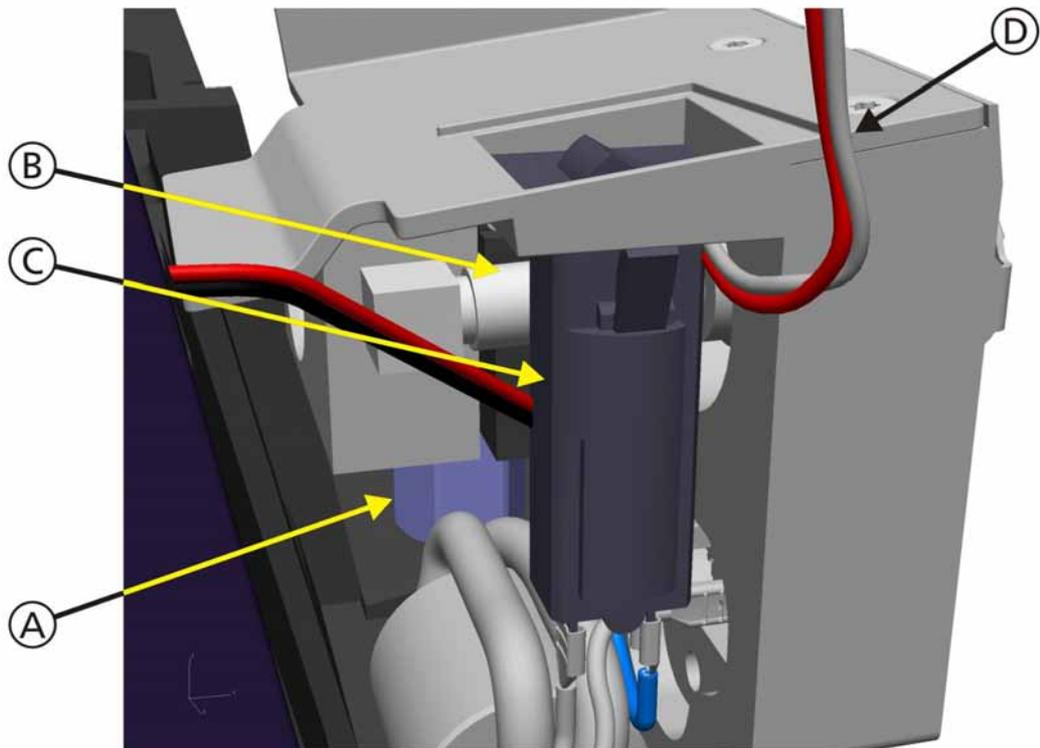

Figure 11-52. Oxygen Mixer Valve Cable Assembly
- Figure 11-52, *Oxygen Mixer Valve Cable Assembly*, on page 11-59